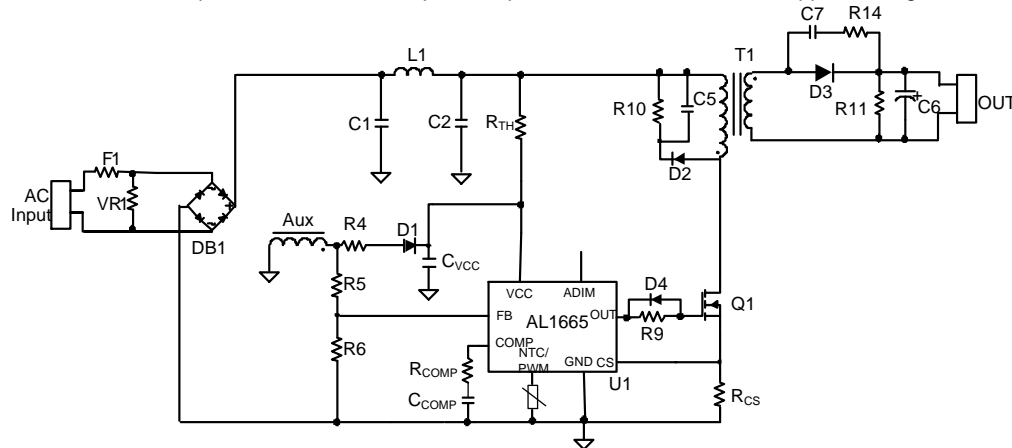
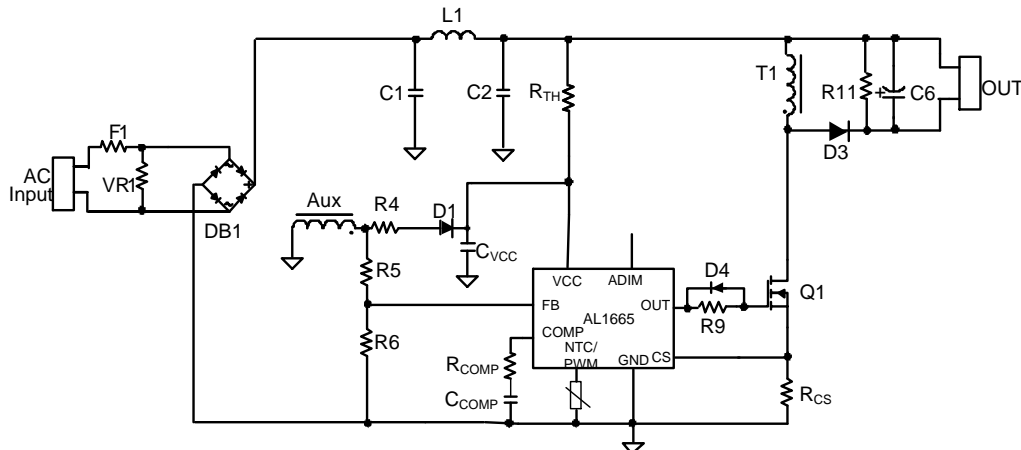

Figure 1. Flyback Application Circuit
Figure 2. Buck-Boost Application Circuit
Where V_{COMP_ST} is the pre-charged voltage of COMP pin. Figure 1 shows R_{COMP}.
- R5 and R6 shown in Figure 1 are divider resistors connected from the auxiliary winding
- RCS is current sense resistor, which is shown as Figure 1
- R_{CS} is the current sense resistor, which is shown in Figure 1
- R_{CS} is the current sense resistor, which is shown as Figure 1 and Figure 2